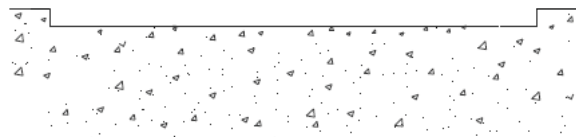
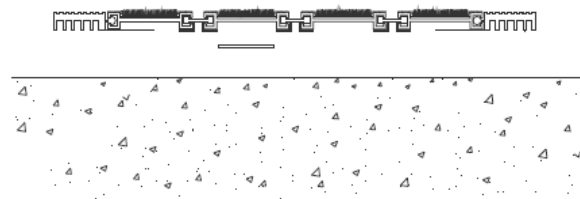

Figure 2
Figure 4
**STEP 2.** Provide the blockout as required (see Figure 2). The blockout may be formed at the time of the initial pour of the concrete, as recommended in item "A" under "**Precautions and Recommendations**", or the blockout may be formed at a later time by removing material from the slab. To ensure a good installation, use level and true blockout materials. The blockout is illustrated in Figure 4.
**STEP 7.** Select the flexible lock strips. Peel the backing from the flexible strip portion of the fastener, and press the strip onto the bottom of the mat tread (see Figure 4). Ensure that the strip will not interfere with the perimeter of the mat.